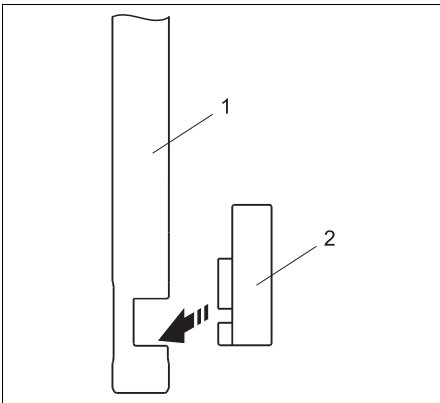

Fig. 9: Clip calibration filter onto the sensor shaft
9. Place the blue calibration filter onto the sensor, see figures 9 and 10. Slide down the filter all the way to the stop. Press OK to continue.
10. Place the red verification filter onto sensor, see figures 9 and 10. Slide down the filter all the way to the stop. Check the filter value according to filter kit certificate. Value should be within ± 0.03 AU. Press OK to continue